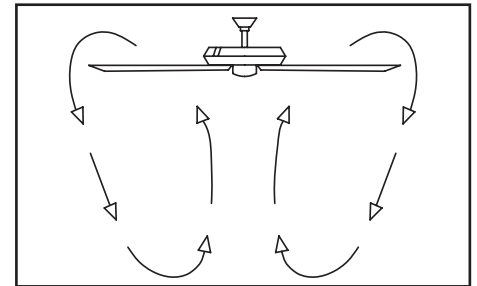

Figure 25
**Cool weather - (Reverse)** An upward air flow moves warm air off the ceiling as shown in Figure 25. This allows you to set your heating unit on a lower setting without affecting your comfort.